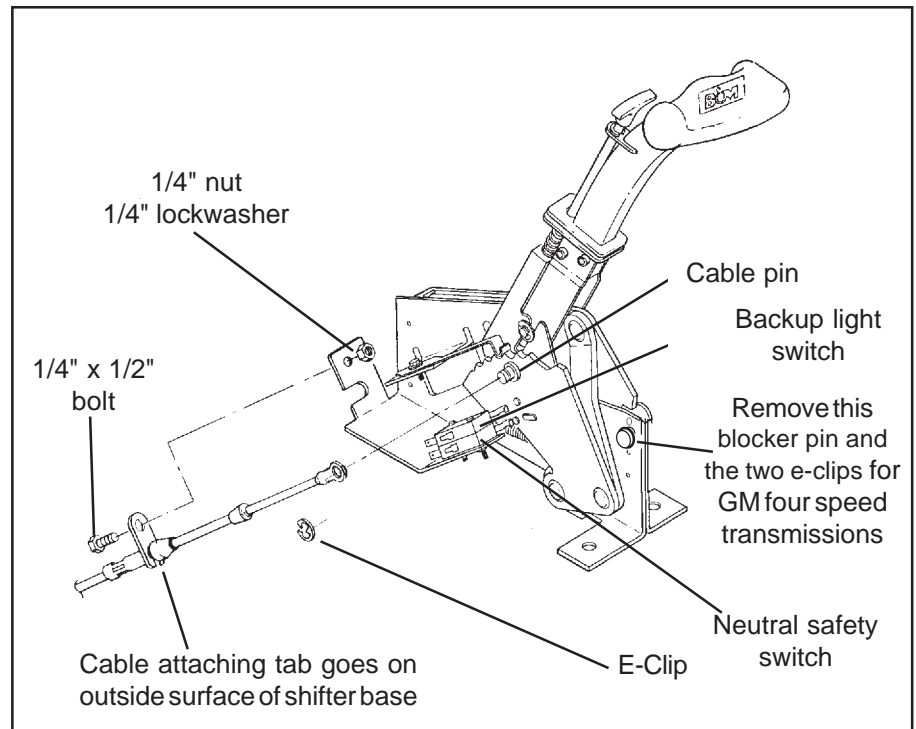

Figure 2
NOTE: If you are installing this shifter with a GM four speed automatic transmission you must remove the blocker pin and the two e-clips indicated in **Figures 2 and 3**. Removing this blocker pin gives the shifter four forward positions rather than three. Do **not** remove the blocker pin and the two e-clips for three speed automatic transmissions.
STEP 4. Assemble the neutral safety and reverse light switches to the bracket using two #4-40 x 1" screws and nuts, as shown in **Figure 2**. **Beware**, over tightening the switch attachment screws will crack the switch housings. To adjust the switches loosen the screws and slide the switches in or out as required, then retighten the screws.
as shown in **Figure 2**. The cable attachment tab should be bolted to the outside surface of the shifter base using a 1/4" x 1/2" hex bolt, lock washer and nut. Install the e-clip that secures the cable to the cable pin.
STEP 13. Disconnect the battery ground cable before beginning to wire the neutral start and reverse light switches. Locate and identify the neutral start and reverse light wires on the stock neutral start/backup light switch (usually on the steering column or on the stock shifter). Cut the wires from switch then strip 1/4" of insulation off the wires and install the slip-on terminals supplied in the kit. Crimp the terminals onto the wires using a crimping tool or pliers. Connect the neutral start wires to the **LOWER** switch and the reverse light wires to the **UPPER** switch (**See Figure 2**). Tape the terminal connections to prevent shorts. Reconnect the battery ground cable, disconnect the coil wire and set the parking brake. Check the switch operation by attempting to start the motor in each shifter position. **The starter must crank only when the shifter is in the Park or Neutral position.** Check the reverse light operation. Adjust the switches if required. Reconnect the coil wire.